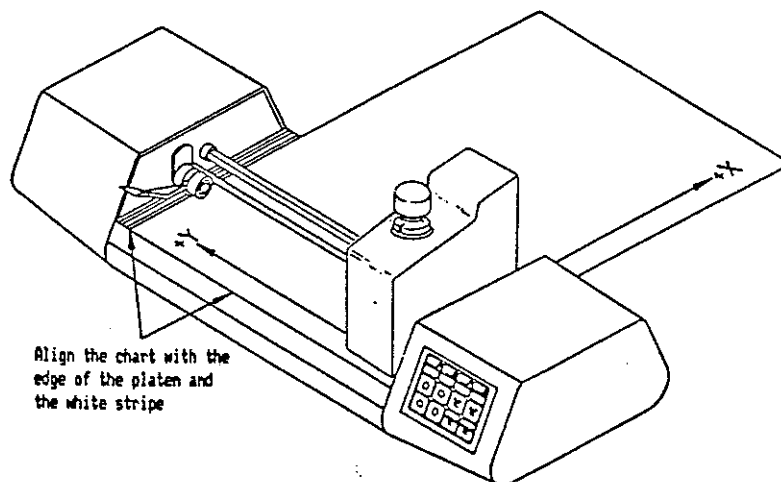

FIGURE 1-4. LOADING LARGE CHARTS
3. Insert the chart between the pinch rollers and the chart drive shaft and position it as shown in Figure 1-4.